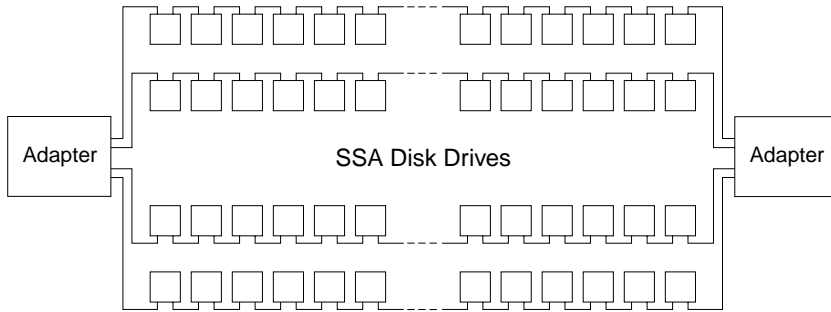

Figure 13. Two Loops with Two Adapters
Figure 13 shows an example configuration that has two loops and two adapters:
- When an SSA adapter is connected to two SSA loops, and each loop is connected to other adapters, all adapters must be connected to both loops (see Figure 13 on page 26).